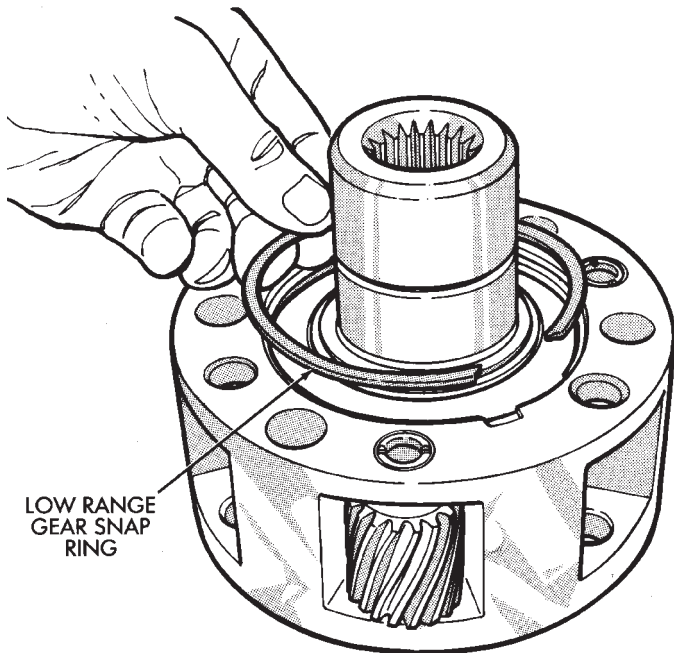

Fig. 64 Install Low Range Gear Snap Ring
- (2) Install low range gear snap ring (Fig. 64).
- (3) Lubricate input gear and low range gears with automatic transmission fluid.
- (4) Start input gear shaft into front case bearing.